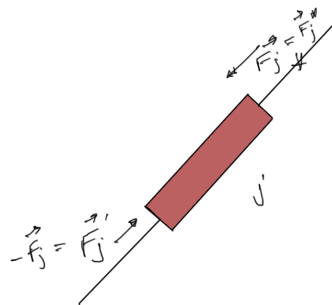

Figure 1.3: Strut model
- Strut forces. Under static conditions the total resulting force on the strut is zero, so $\mathbf{F}'_j = -\mathbf{F}_j$. For this problem it is redundant to label forces on both ends, so we mark the labeled end of the object with an asterisk as in fig. 1.3.